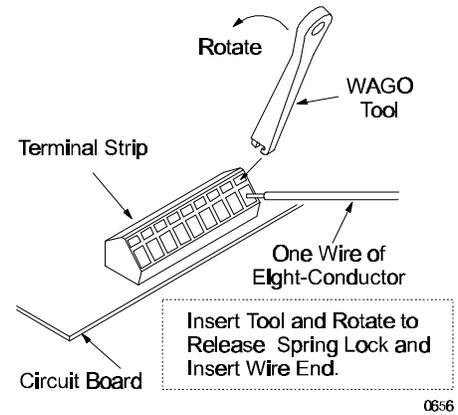

Fig. 2
- B) Connect colors as shown on System Drawing. A WAGO Tool is taped to the relay on the circuit board in each Processor. Use this tool to depress the spring lock for the individual wire connection to the terminal strip. (See Fig. 2)